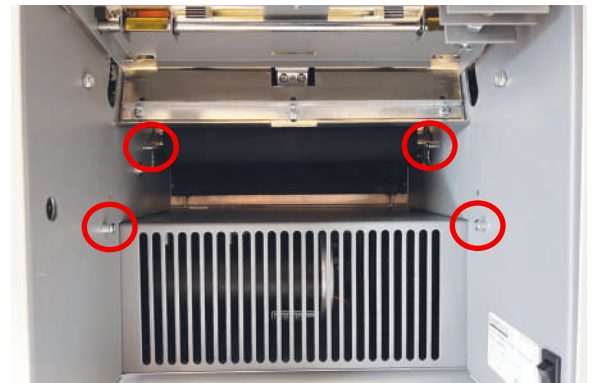

Fig. 2c
2. Locate mounting notches on the fold table (Fig. 2b) and the fold mounting pins on the unit (circled in Fig. 2c).